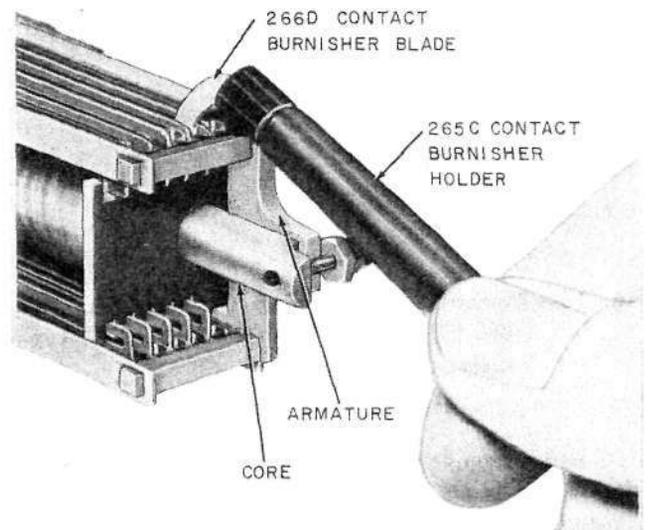
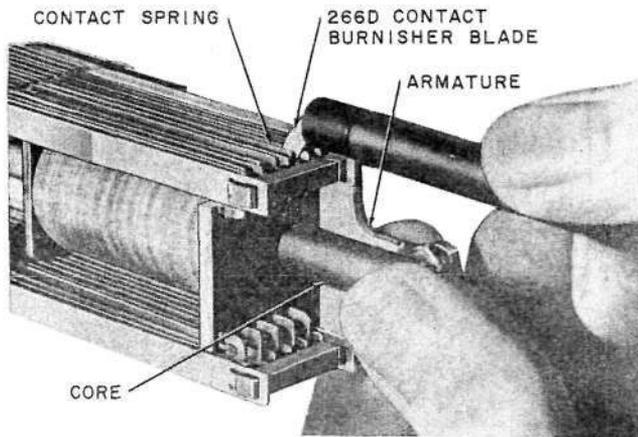

Fig. 14—Method of Inserting Contact Burnisher Blade on UB-Type Relays
Fig. 15—Method of Burnishing Contacts on UB-Type Relays
4.19 *UB-Type Relays:* Insert the 266D blade in the 265C contact burnisher holder so the outer tip of the blade extends approximately at right angles to the holder as shown in Fig. 14. In burnishing normally open contacts, insert the burnisher blade between the contacts so the blade is over both contacts on the bifurcated spring. Operate the relay manually, giving a slight pressure against the blade, and at the same time move the blade up and down as shown in Fig. 15. In the case of normally closed contacts, operate the relay manually, insert the blade between the contacts and then release the relay. The tension of the springs themselves will usually furnish sufficient pressure against the burnisher blade.